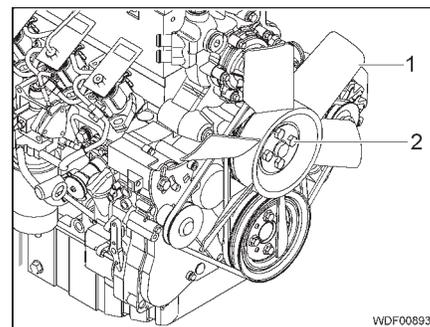

Fig. 32 Fan wheel attachment
- Put the fan wheel (Fig. 32,1) into position.
- Screw in 4 screws (Fig. 32,2) with washers and tighten.